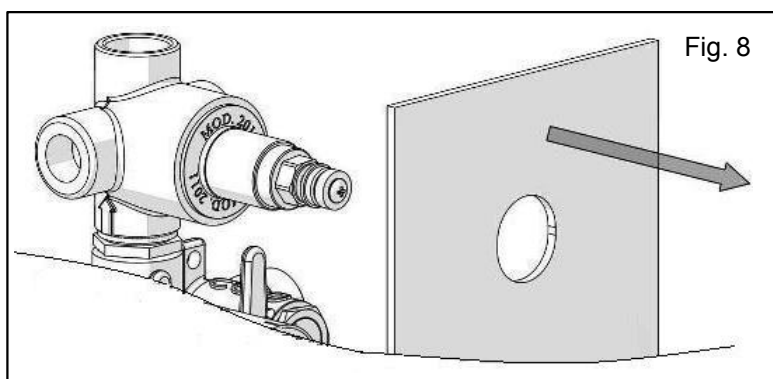

Fig. 8
- 3) Remove trim plate. (Fig.8)